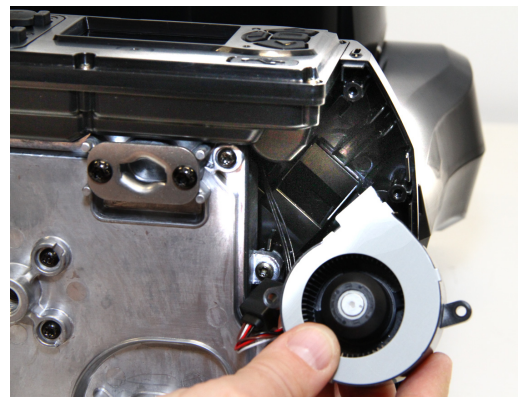

Figure 27: Releasing the blower
5. See Figure 27. A blower is located close to the control panel. The blower is a push fit. You can lift it out of its recess in the base to give better access to the metal gauze filter. Note how the blower is held in position in the base.